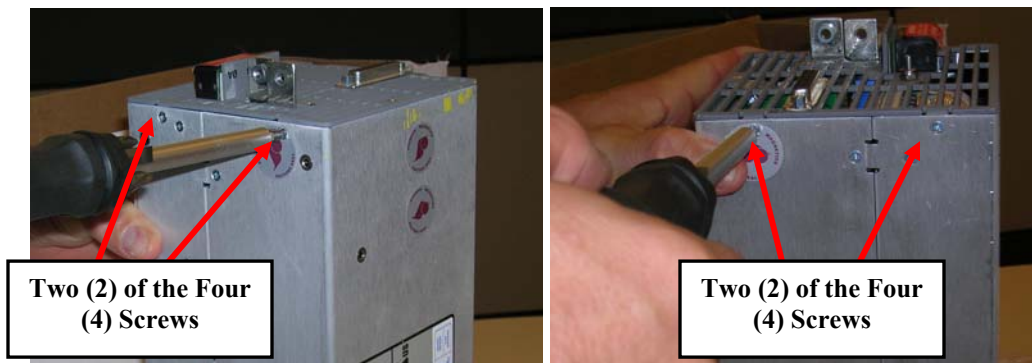
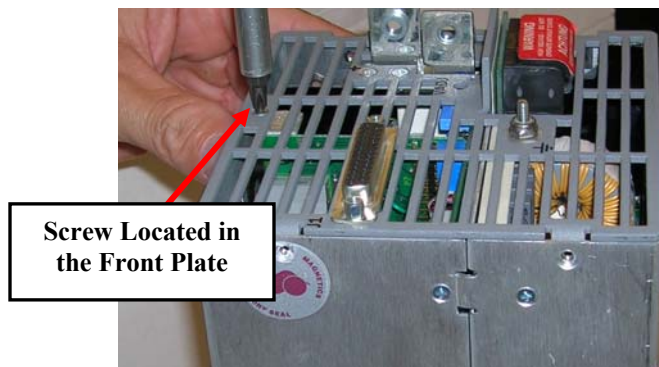

Figure 36 Removing Four (4) of the Five (5) Screws
Figure 37 Removing Screw in Front Plate
2. Using a magnetically tipped #1 Phillips screwdriver, remove the five (5) screws from the power supply. One (1) screw is located in the front plate and the four (4) other screws are located in the corners at the end of the power supply near the output bus bars. Store the five (5) screws aside in a safe place. (Refer to Figure 36 and Figure 37.)